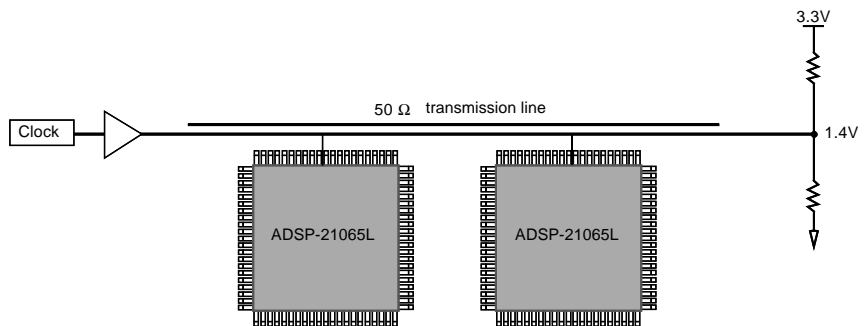
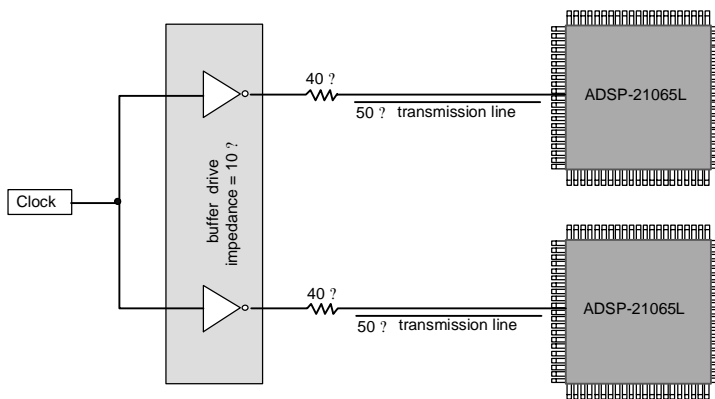

Figure 12-7. End-of-line termination clock distribution method
Figure 12-8. Source termination clock distribution method
Multiprocessor systems must maintain low clock skew between both processors when they are communicating synchronously over the external bus. Make sure you route the clock in a controlled-impedance transmission line that is properly terminated either at the end of the line (see Figure 12-7) or at the source (see Figure 12-8 on page 12-44).
- For *source termination*, Figure 12-8 on page 12-44 shows an example of series-terminated transmission lines for clock distribution. This configuration enables identical delays in each path.